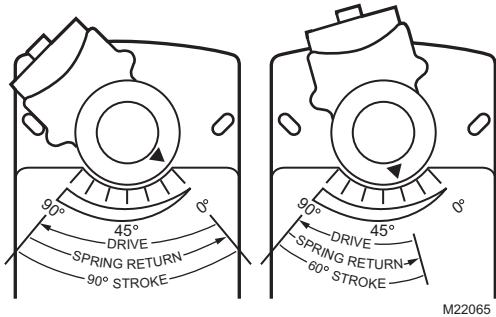

Fig. 5. Stroke reduction.
3. Rotate the coupling to the desired fail-safe position, aligning it based on the stroke labelling. See Fig. 5.
EXAMPLE: Setting shaft coupling to an approximate fail-safe position of 35 degrees (as indicated on the housing) limits stroke to 60 degrees. (See Fig. 5)